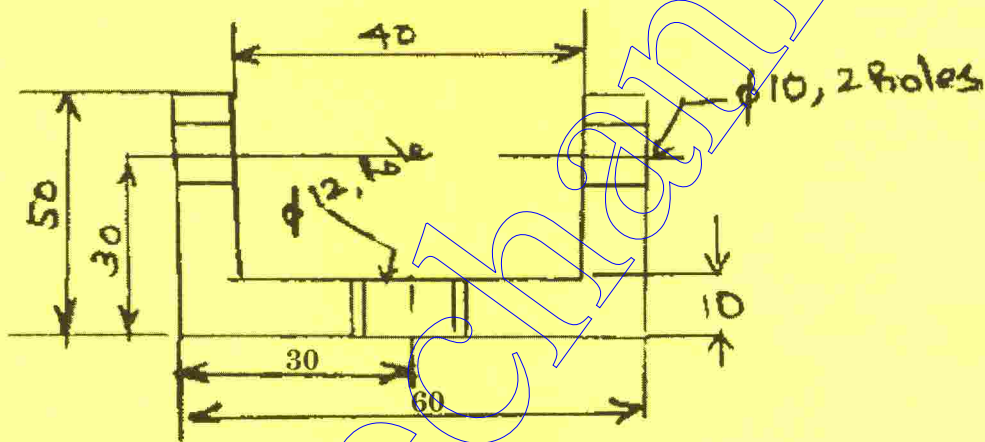

Fig. 13 (a)
13. (a) Locate and clamp and draw two views of Faceplate fixture for in line boring of 10mm holes for the component Shown in Fig 13 (a).
- (b) Draw any two views of Milling Fixture to mill the vertical faces of the component shown in Fig 13 (a).